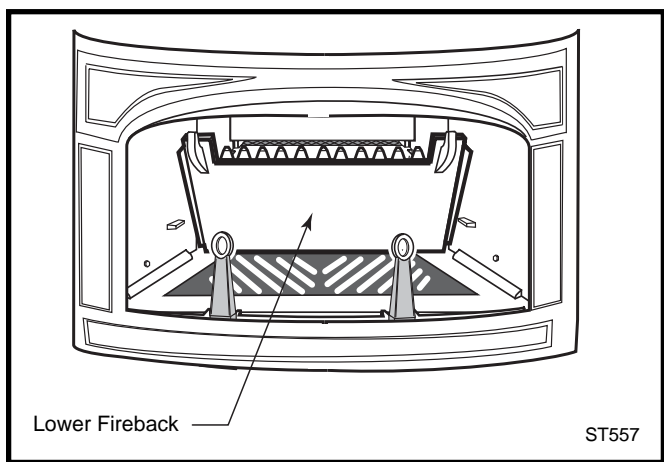

Fig. 38 Remove the lower fireback.
2. Tap the left and right wedges upward, and remove the lower fireback by pulling it forward. You can either let it lie face down on the firebox floor, or remove it from the stove, through the front door opening. (Fig. 38)